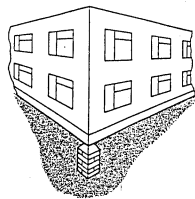

Fig. 1
- i) With the aid of sketch diagrams illustrate three (3) different solutions you would recommend to provide a bridge across a 20m wide river [4 each]
- iii) Fig. 1 shows the corner of a warehouse building which is supported on a short brickwork column. The load on the column is estimated to be as follows.